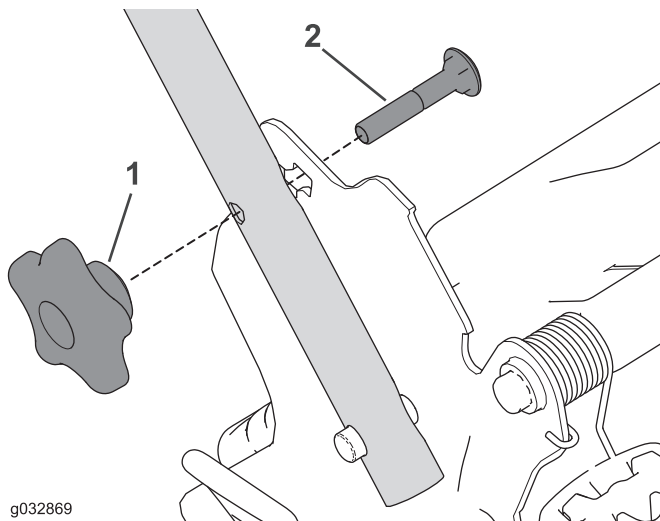

Figure 27
2. Remove and save the 2 handle knobs and 2 carriage bolts from the handle brackets (Figure 27).